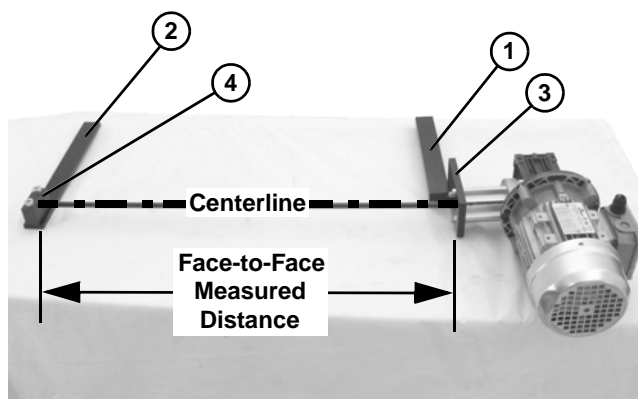

Figure 10
Mounting holes are not provided. Ensure that gearmotor support assembly (**Figure 10, item 1**) and bearing support assembly (**Figure 10, item 2**) are parallel and center-line of coupling matches center-line of bearing block.
- Attach gearmotor support assembly (Figure 10, item 1) and bearing support assembly (Figure 10, item 2) to mounting surface.
- Measure distance between motor mounting plate (Figure 10, item 3) and bearing block (Figure 10, item 4).